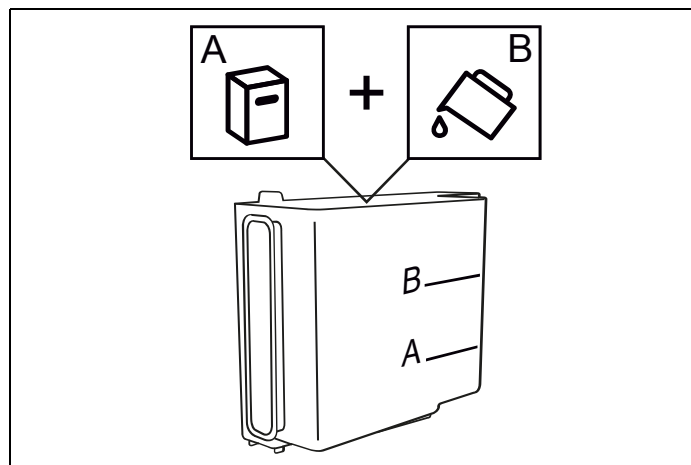

Fig. 56
- **Add descaler (up to level A)** (Fig. 56); Pour the de-scaler into the tank up to the level A marked inside the tank (equal to one 100 ml pack); then add water (one litre) up to level B; and put the water tank back in. Press NEXT;